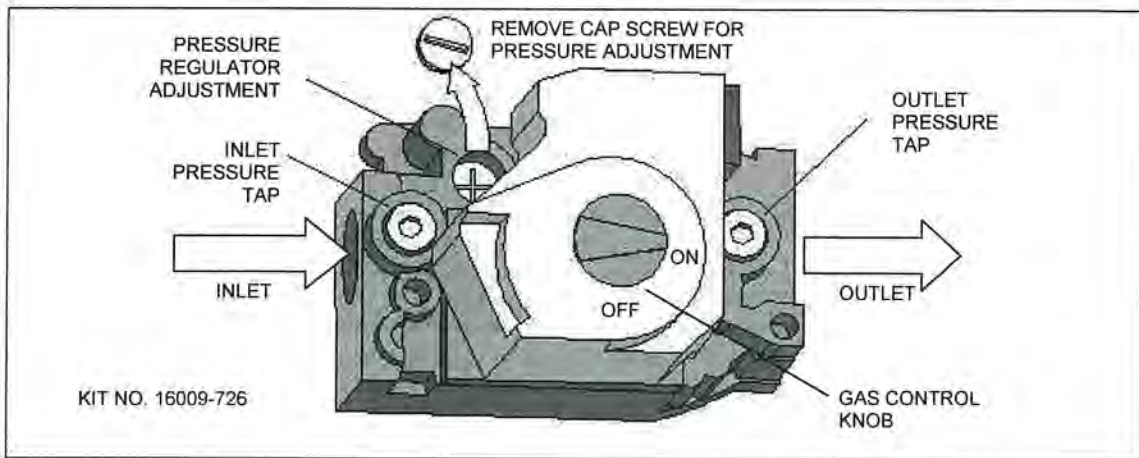

Figure 24 – GAS VALVE
2. Remove the plug on outlet end of gas valve (see Figure 24) and attach pressure tap and manometer.